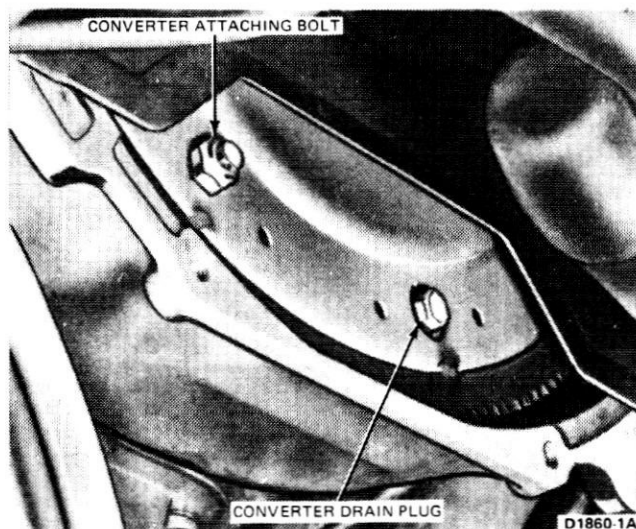

FIG. 7 Converter Drain Plug Location—Typical
5. With the wrench on the crankshaft pulley attaching bolt, turn the converter to gain access to the converter drain plug, and remove the plug (Fig. 7). Place a drain pan under the converter to catch the fluid. With fluid drained, reinstall the plug.